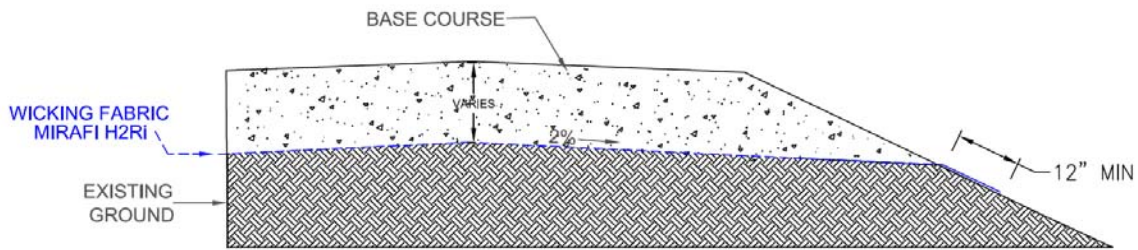

Figure 5 - Detail for Edge Termination into Ditch
3. Daylighting - This approach has been shown to be the best for maximum water removal from a cross section. Evaporation at the exterior drives water movement outward from the interior. A directional gradient should be incorporated with this approach in combination with a minimum 12" (300 mm) draped exposure of Mirafi® H2Ri at the exterior (along the ditch), as shown in Figure 5. If Mirafi® H2Ri is terminated above a shoulder drainage ditch, care and maintenance of the ditch should be maintained to ensure water does not back up to the level of the system. This could include clearing and cleaning of the ditch to ensure proper drainage.